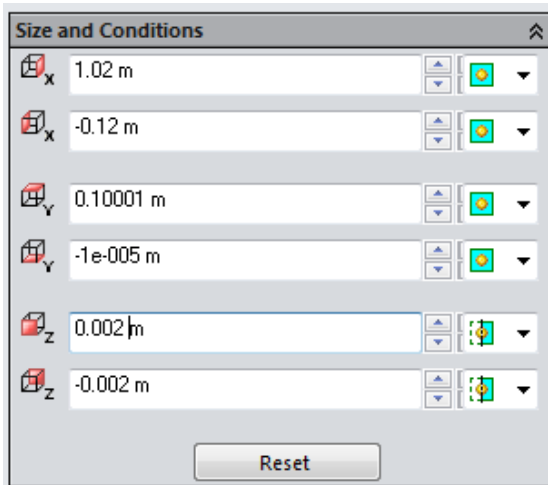
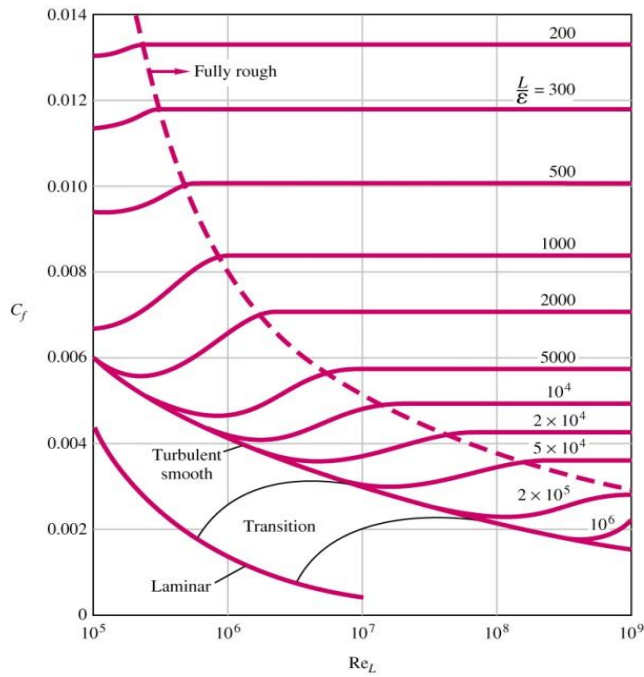

Figure 2.28a) Setting the size of the computational domain
Figure E3 Average friction coefficient for flow over smooth and rough flat plates, White (1999)
30. Select **Flow Simulation>>Computational Domain...** Set the size of the computational domain to the values shown in figure 2.28a). Click on the **OK** button to exit. Select **Flow Simulation>>Initial Mesh...** from the SolidWorks menu and change the **Number of cells per X:** to **400** and the **Number of Cells per Y:** to **200**. Also, in the **Control intervals** portion of the window, change the **Ratio** for **X1** to **-5** and the **Ratio** for **Y1** to **-100**. This is done to increase the number of cells close to the wall where the velocity gradient is high. Click on the **OK** button to exit. Select **Flow Simulation>>Calculation Control Options...** from the SolidWorks menu. Change the **Maximum travels** value to **5** by first changing to **Manual** from the drop down menu. Travel is a unit characterizing the duration of the calculation. Click on the **OK** button to exit.
The average friction coefficient over the whole plate C_f is a function of the surface roughness for the turbulent boundary layer and also a function of the Reynolds number based on the length of the plate Re_L , see figure E3 in Exercise 8. This friction coefficient can be determined in Flow Simulation by using the final value of the global goal, the X-component of the Shear Force F_f and dividing it by the dynamic pressure times the area A in the X-Z plane of the computational domain related to the flat plate, see figure 2.28a) for the size of the computational domain.
2.8 Use different fluids, surface roughness, free stream velocities and length of the computational domain to compare the average friction coefficient over the entire flat plate with figure E3.